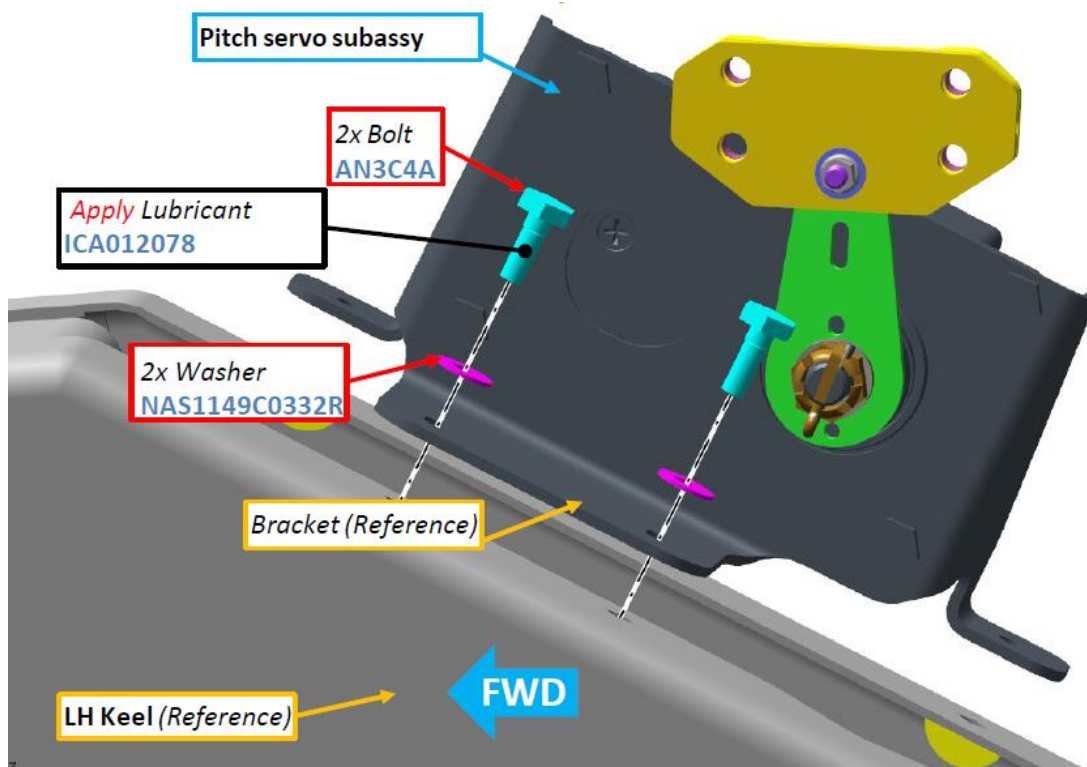

Figure 9 Pitch Servo Installation
4. Apply lubricant (ICA012078) liberally to threads and shank of 2x Bolt (AN3C4A) (see Figure 9).
5. Install 2x Bolts (AN3C4A), and 2x washers (NAS1149C0332R) (see Figure 9).